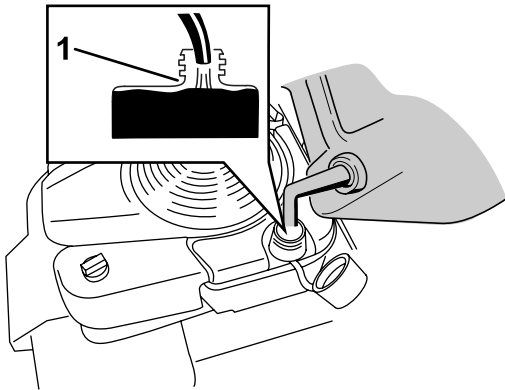

Figure 11
1. Clean around the fuel-tank cap, and remove the cap from the tank (Figure 11).
2. Fill the fuel tank, leaving at least 6 mm (1/4 inch) from the bottom of the neck empty to allow the fuel room to expand (Figure 11).